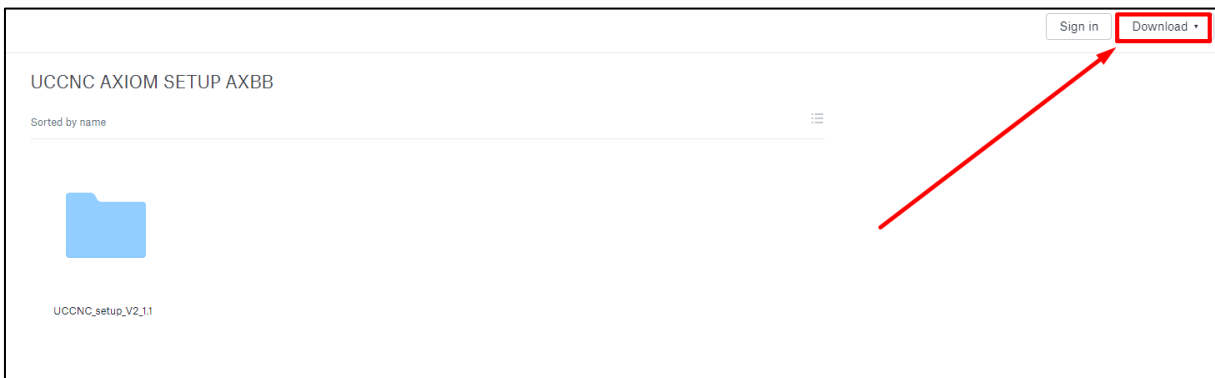

Figure 26 Click on download when you open the link – this will open small sub menu
- \$\$\$\$\$\$NOTE\$\$\$\$\$\$ Please download the main installation drop box link in full before you start – see Figure 26